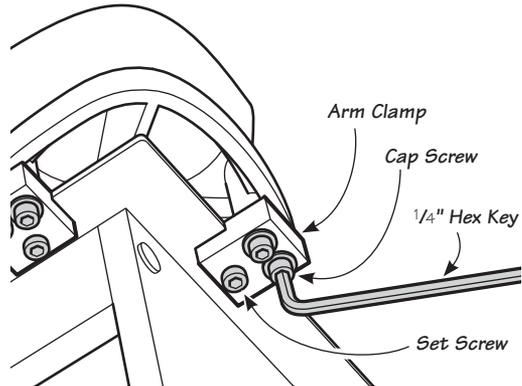

Figure 8: Securing the arm clamps.
- Adjust each arm clamp so that the edge of the rebated corner is butted against the edge of the router table. Tighten the cap screws securely in place using the 1/4" hex key (Figure 8).